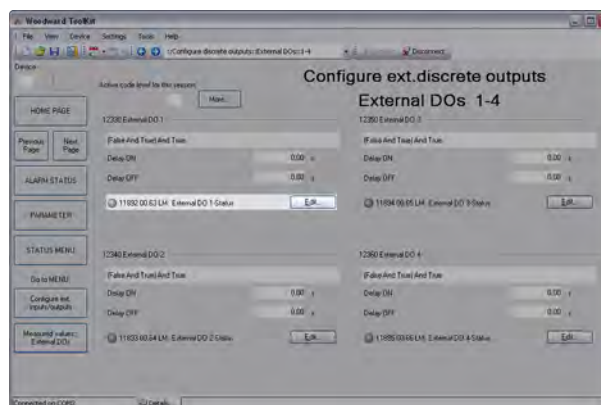

Fig. 196: Setup of external DOs
1. ➔ Set up the external discrete outputs using the ToolKit screen shown in (Fig. 196).